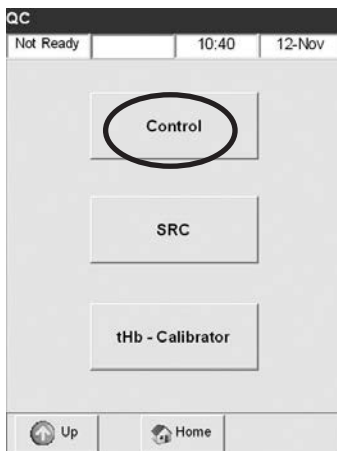

Fig. 4-13 Select Control
2. Select **<Control>** (Fig. 4-13).